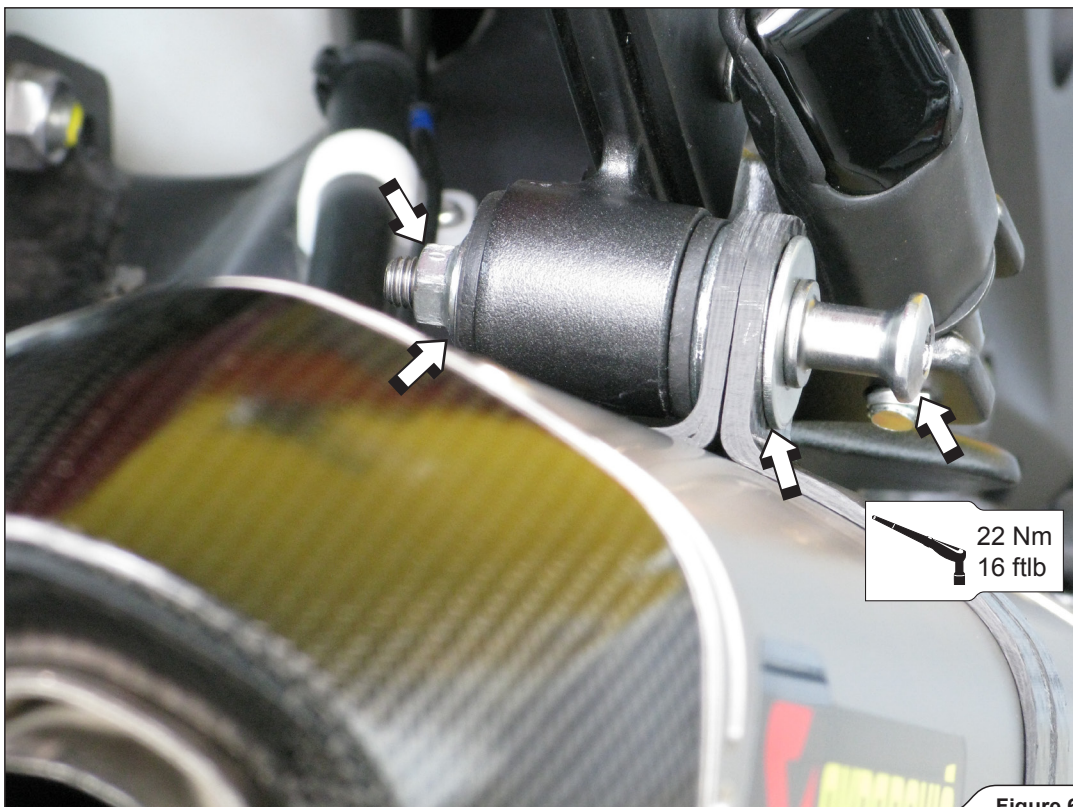

Figure 6
3. Slide the muffler all the way onto the stock collector, align the muffler in respect to the motorcycle and tighten the carbon-fiber clamp using stock bolt, washers and nut as shown, (do not use the stock distance bush) (**Figure 6**).